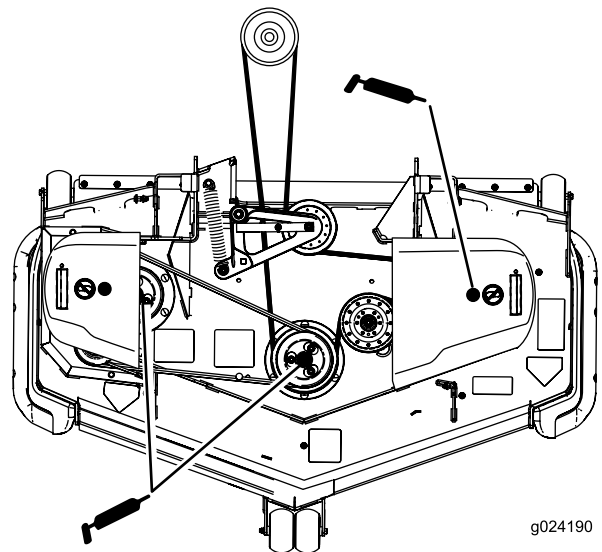

Figure 40
5. Grease the three spindle bearings until grease comes out the lower seals (Figure 40).
- Grease the drive-belt idler arm (Figure 40).